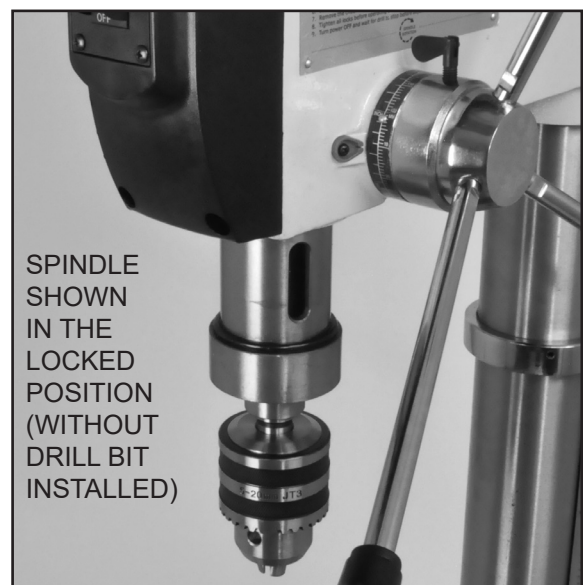

Figure 18
**NOTE:** Photo shown without drill bit installed in the drill chuck. (Figure 18)
**NOTE:** Figure 18 shows the spindle in the locked position.